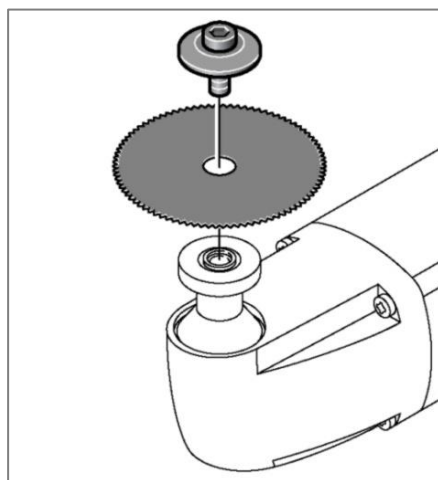

Fig. 1:
2. Apply one fork wrench at the drive shaft behind the saw blade, and the other one at the front at the retaining screw (see fig. 1).